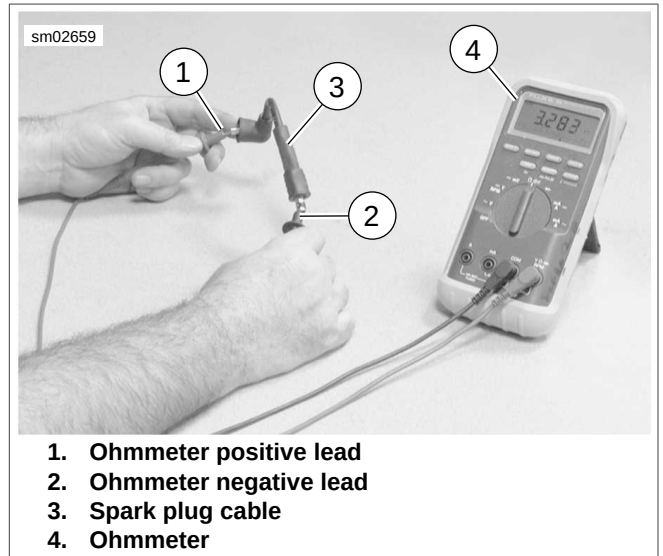

Figure 1-72. Testing Resistance
3. See Figure 1-72. Check spark plug cable resistance with an ohmmeter. Compare values from test with Table 1-17. Replace cables not meeting resistance specifications.